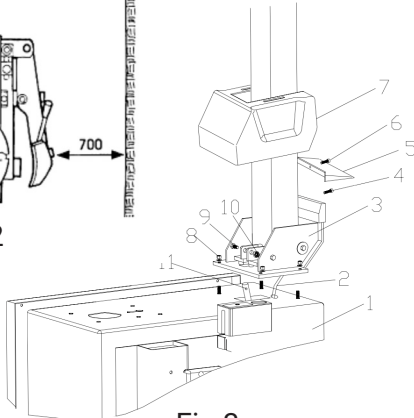

Fig 3
2. Place the swing hinges (3, Fig. 3) on the stem (1, Fig. 3) with 4 screws (M12), thread the air hose (2, Fig. 3) through the hole in the pillar. Tighten 4 locknuts (8, Fig. 3).
3. Insert the bolt (9, Fig. 3) into the holes in both the column and the inclined cylinder arm (11, Fig. 3), tighten it with a lock nut (10, Fig. 3).
4. Unscrew the two bolts on the left cover and remove the cover, connect the air hose (2, Fig. 3) as previously mentioned to the side holes
5. Fasten the plastic cover (7, Fig. 3) with two bolts (4, Fig. 3). 6) Mount the rear plastic cover (5, Fig. 3) the column with a screw (6, Fig. 3).